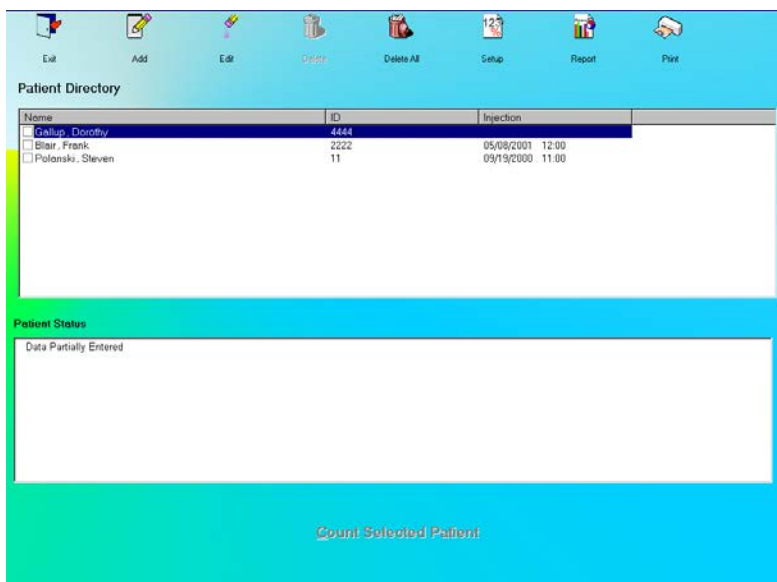
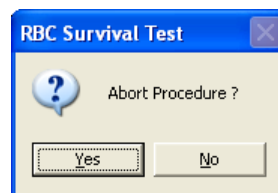

Figure 10-64 RBC Survival Test Main Screen
Figure 10-78
Click the **Red Blood Cell Survival** button or press *Alt+R* on Figure 10-1 Lab Tests Main Screen. Figure 10-64 RBC Survival Test Main Screen will appear. The **Patient Directory** box will be empty if there are currently no existing patients in the database. Each added patient will appear in this box with their name and ID number along with the time and date of the injection given to the patient. The **Patient Status** box will show the data status of the patient if test has not yet been performed, or the latest test results.
- Click the **Done** button to save changes or click the **Cancel** button to discard the changes and return to Figure 10-64 RBC Survival Test Main Screen.
1. Click the  icon on Figure 10-64 RBC Survival Test Main Screen. The screen appears as shown in Figure 10-66, with information to be entered in three sections.
6. To add more patients, click the  icon on Figure 10-64 RBC Survival Test Main Screen.
- Click the  button to save changes or click the  button to discard the changes and return to Figure 10-64 RBC Survival Test Main Screen.
1. To select a patient for the test, click on that record in the **Patient Directory** box on Figure 10-64 RBC Survival Test Main Screen. The **Patient Status** box will show the current status of the patient. If this box reads, "All Data has been entered", the  button at the bottom of the screen is accessible and the test can be started. If data is partially entered, the  button is inaccessible.
To begin counting, verify that there are no radioactive sources nearby and click the **OK** button. To abort the measurement, click the **Cancel** button and the screen will return to that shown in Figure 10-78. To exit to Figure 10-64 RBC Survival Test Main Screen, click the **Exit** button or press *Alt+E*. To begin the test again, click the **Start Procedure** button or press *Alt+S*.
To begin counting, place the sample in the well and click the button. To quit counting, click the button. This will give a prompt to abort the test for the patient, as in Figure 10-78.